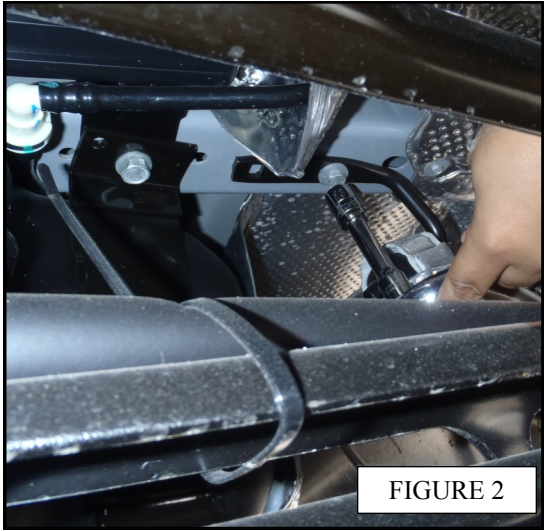

FIGURE 2
3. At the passenger side. The exhaust assembly needs to be dropped in order to continue installation. There are two main hangers at the rear of the vehicle. These can be removed with a 13mm socket & ratchet. It is recommended to use a ratchet strap to support the exhaust to prevent damage. Then repeat step 2 for the passenger side. FIGURE 2